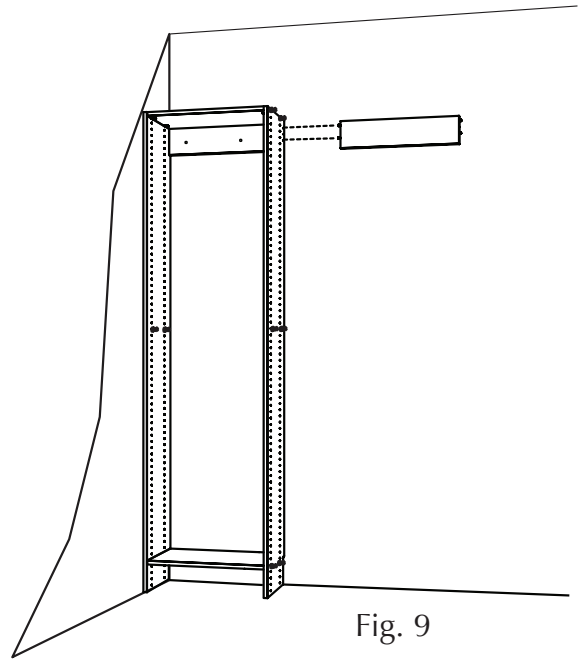

Fig. 9
9. Attach another cleat as shown in Fig. 9.